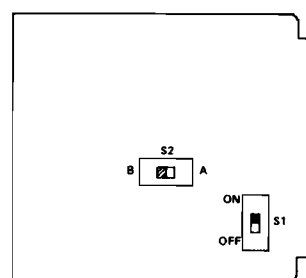

figure 2. Switch options
2.06 The 9196 module contains two option switches. Locations of these option switches on the module's printed circuit board are shown in figure 2. After these options are selected, no further optioning or alignment of the module is required.